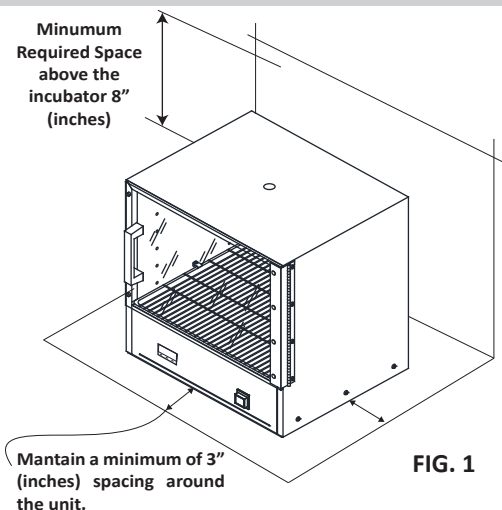

FIG. 1
- Place the Incubator on a flat surface. Maintain a minimum of 3" (7.6 cm) of airspace around the unit and a minimum of 8" (20.32 cm) above the unit (FIG.1).